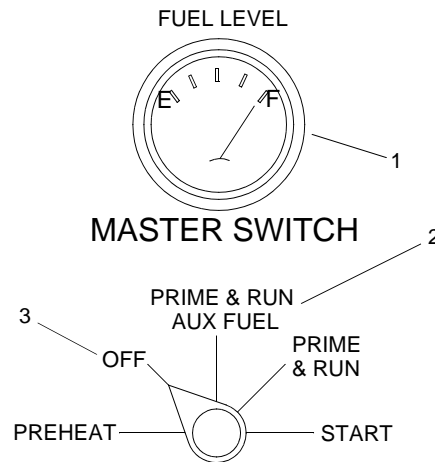

Figure 2. Generator Fuel Level Gauge and Master Switch
7. Verify level of fuel in day tank on fuel gauge (figure 2, item 1).
8. If fuel level is low, rotate master switch to PRIME & RUN AUX FUEL position (figure 2, item 2).
9. Rotate master switch to OFF position (figure 2, item 3) when the desired fuel level is reached.
5. While observing generator control panel fuel gauge (figure 2, item 1), fill tank until fuel reaches desired level.